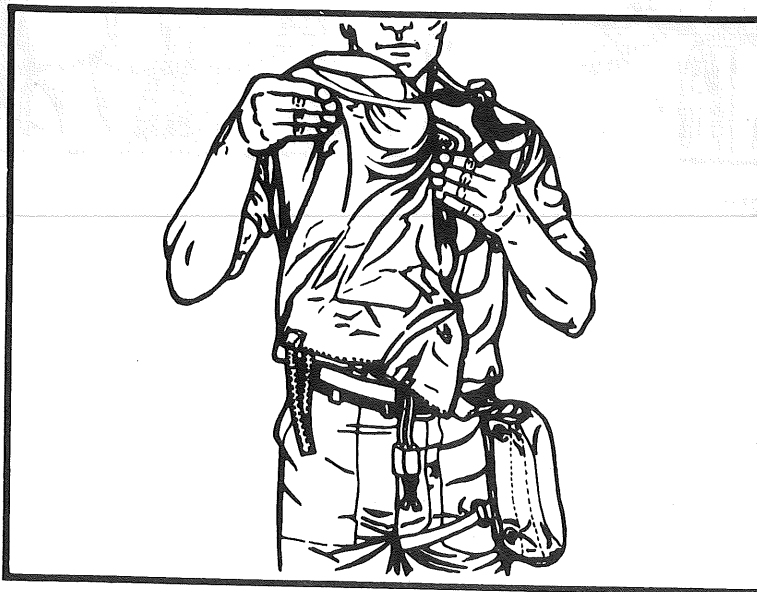

Figure 1
2. Grasp opening of mask and head harness in left hand. Allow the hood to hang over the faceblank. Grasp the upper portion of hood in right hand (fig 1).